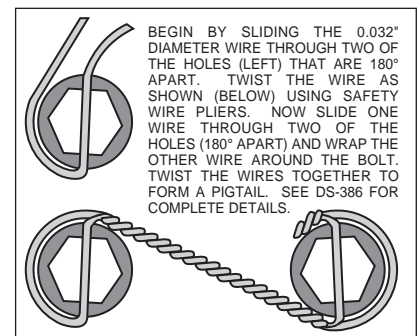

Figure 2. Safety Wire Diagram
- Install wheel studs (1) into the hub (2). Torque to 77 ft-lb. **NOTE:** There are two five lug patterns in the hub (5 x 4.50 and 5 x 4.75). Make sure of the correct hole pattern for the correct wheel application before installing studs into hub.
- Pack the large inner bearing cone (3) with high temperature disc brake bearing grease (available from your local auto parts store) and install into the backside of the hub (2).
- Install the grease seal (4) by pressing into the backside of the hub (2).
- Attach rotor adapter plate (5) to rotor (6) using bolts (7). Torque to 180 in-lb. Safety wire bolts (7) using standard 0.032 inch diameter stainless steel safety wire as shown in Figure 2. Please refer to Wilwood's data sheet DS-386 (available at www.wilwood.com/pdf/ds386.pdf) for complete safety wire installation instructions. **NOTE:** Dished side of adapter plate (5) should face hub (2). The mounting tabs on the rotor (6) should face toward the hub as well and line up with the holes on the adapter plate (5).